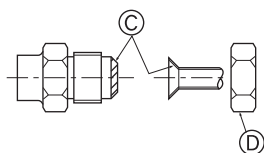

Fig. 4-5
(A) (Fig. 4-5)
(B) (Fig. 4-5)
### 4.4. Rohranschlüsse (Fig. 4-5)